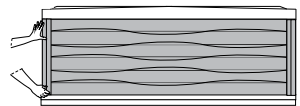

Figure 13.3a
- Grab one of the corner panels, from the bottom, and gently pull the cabinet forward to unsnap it from the holding clip. Then slide it down to remove. Place the panel in a safe location to prevent from damaging it. Repeat the steps to remove the other corner panel, Figure 13.3a.